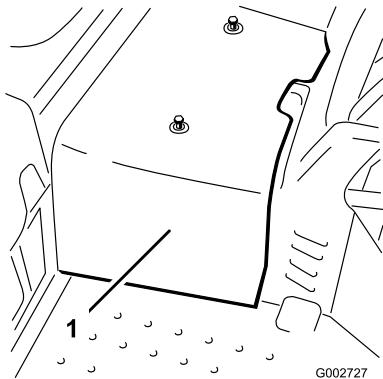

Figure 47
2. Loosen the 2 screws securing the center shroud to the machine and remove the shroud (Figure 47).